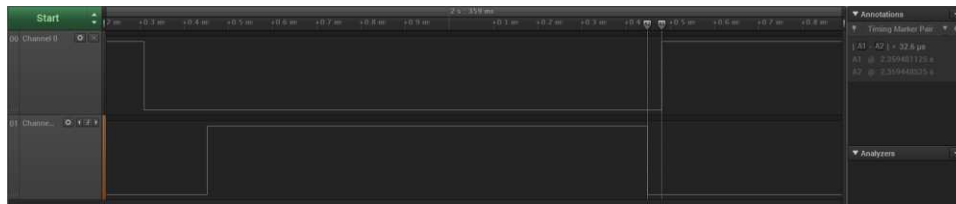

Figure 2. OBS_PWR_DWN (Top), Output Pin (Bottom)
- **Wake-up/shutdown:** Wake up from standby and set a pin high, do operations for about 1 ms to allow the current consumption to stabilize, and then set the pin low again and go back to sleep. The purpose of this scenario was to measure the time and energy from when the processor wakes up until it starts executing user code and from the last user operation until the processor enters sleep. In order to determine when a wake-up started, the OBS_PWR_DWN signal was tied to a pin using signal observation on the Sensor Controller. This signal goes low when the Sensor Controller is active in 24-MHz mode, during a recharge and when the main processor is active. This is useful for measuring the wake-up and shutdown time, but it does not work for 2 MHz (see Figure 2).